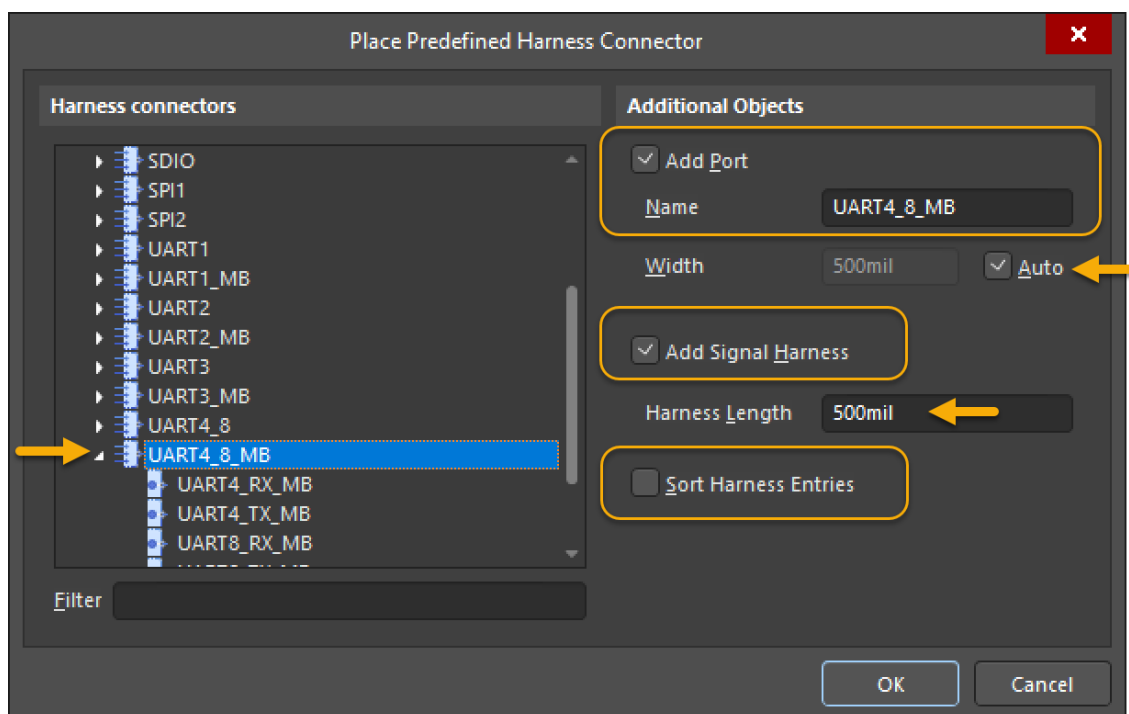

Figure 13. Select and Configure the Predefined `UART4_8_MB`
- b) As you want to transfer the signal to another schematic sheet, it's recommended to use the **Add Port option**. Enable this option, as shown in Figure 13.